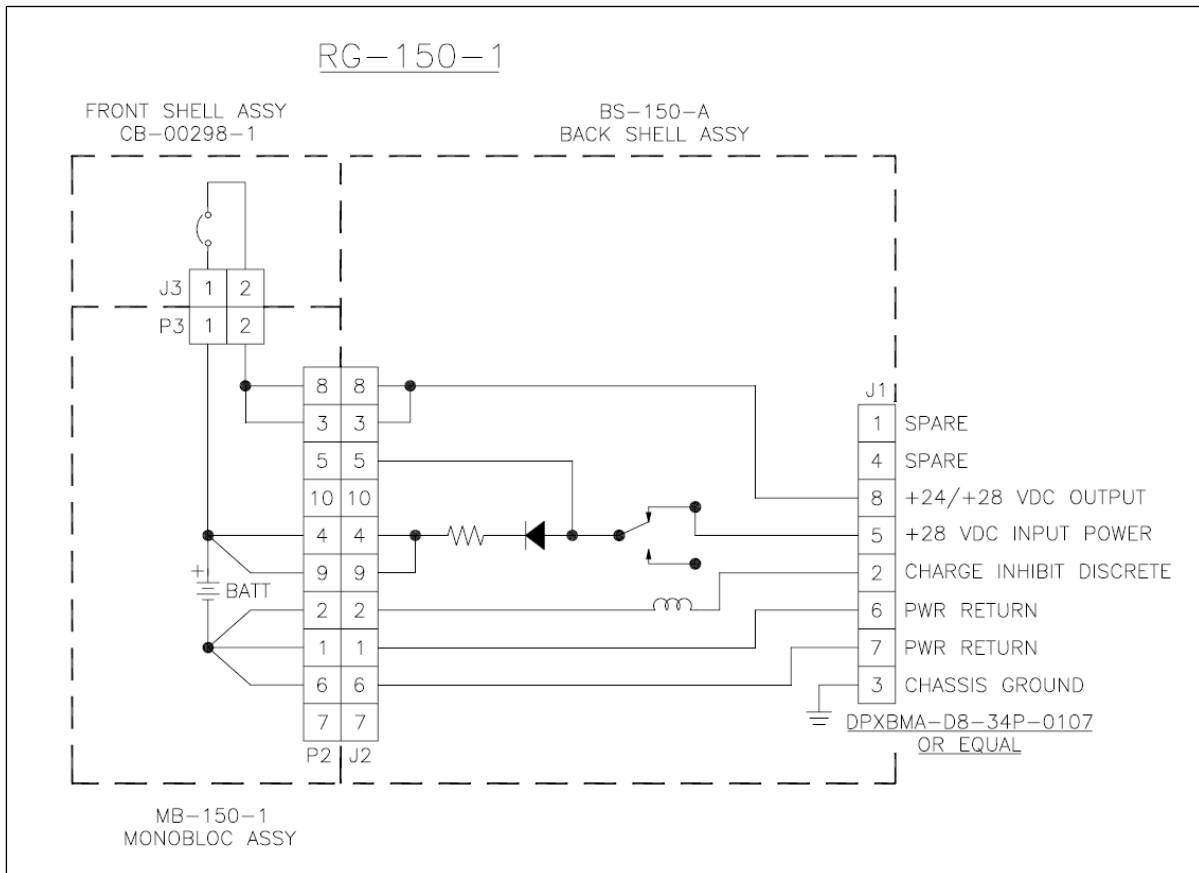

Figure 201. Schematic Diagram for RG-150-1 Battery
- A. The schematic diagram for the RG-150-1 battery is shown in Figure 201.